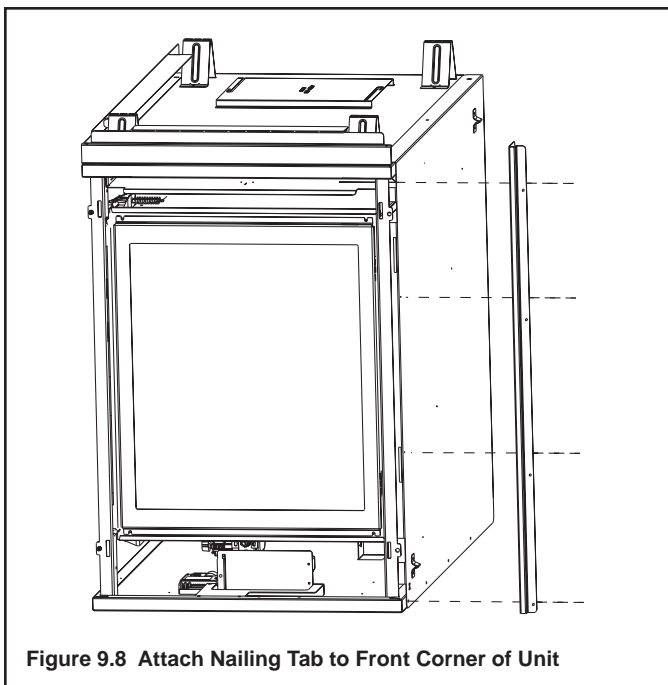

Figure 9.8 Attach Nailing Tab to Front Corner of Unit
Figure 9.8 Attach the first vent section (it will snap into place). Slide the vent gasket onto the vent section and then, up against the appliance. Secure the vent gasket to the appliance with two self-tapping screws found in the manual bag. Note: The vent gasket can be found in the manual bag.
2. When installing a **GDCL4136I** or **GDCR4136I** fireplace remove the nailing tab located on the side of the unit and reattach it to the front corner of the unit as shown in Figure 9.8 (GDCR4136I).